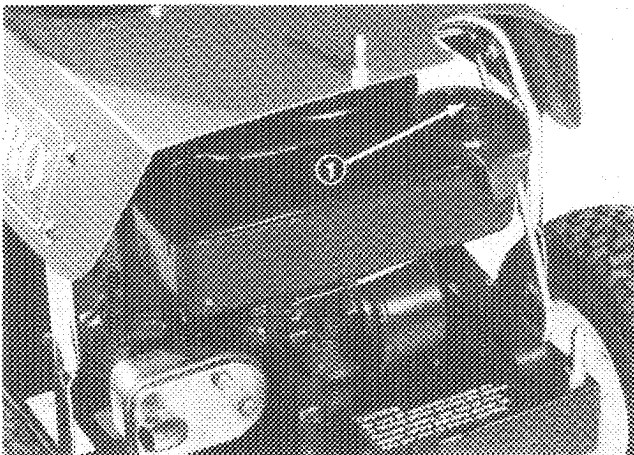

Figure 20
- Clean area around fuel tank cap so foreign matter cannot enter filler hole when cap is removed. Next, remove cap from fuel tank (Fig. 20).